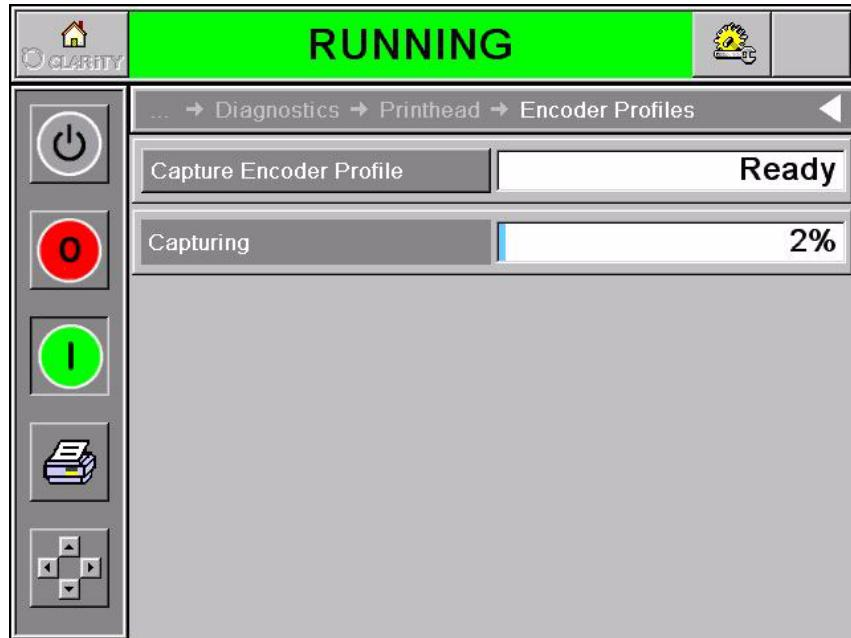

Figure 4-16: Encoder Profiles Page
- 1 Touch the Encoder Profiles button on the Printhead Diagnostics page access to the Encoder Profiles parameters (Figure 4-16).